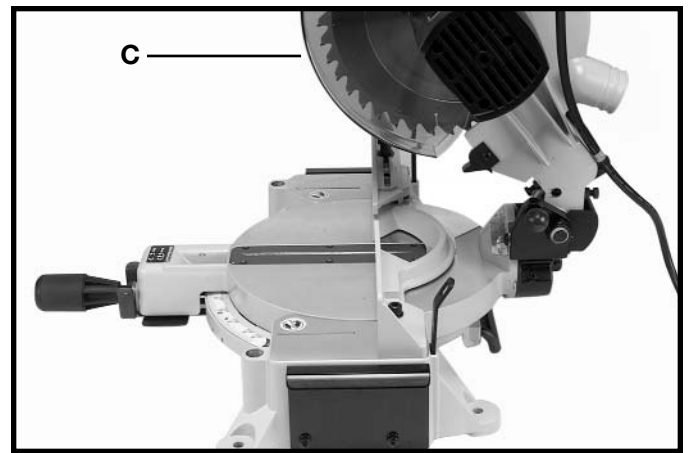

Fig. 6
2. Move the cuttinghead (C) to the up position (Fig. 6).